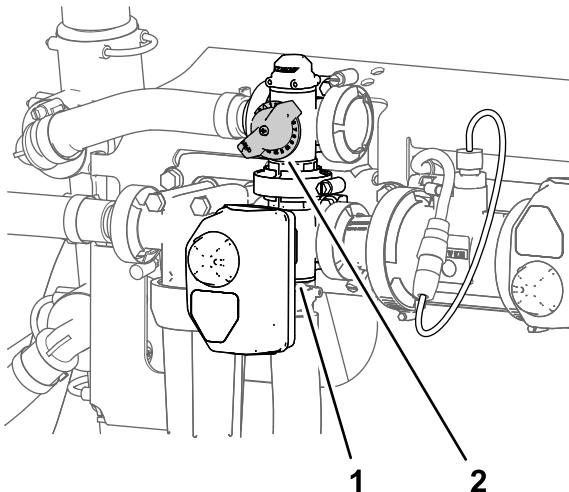

Figure 31
11. Adjust the agitation-bypass valve (Figure 31) on the backside of the agitation valve until the sprayer system pressure indicated on the gauge indicates 689 kPa (100 psi).